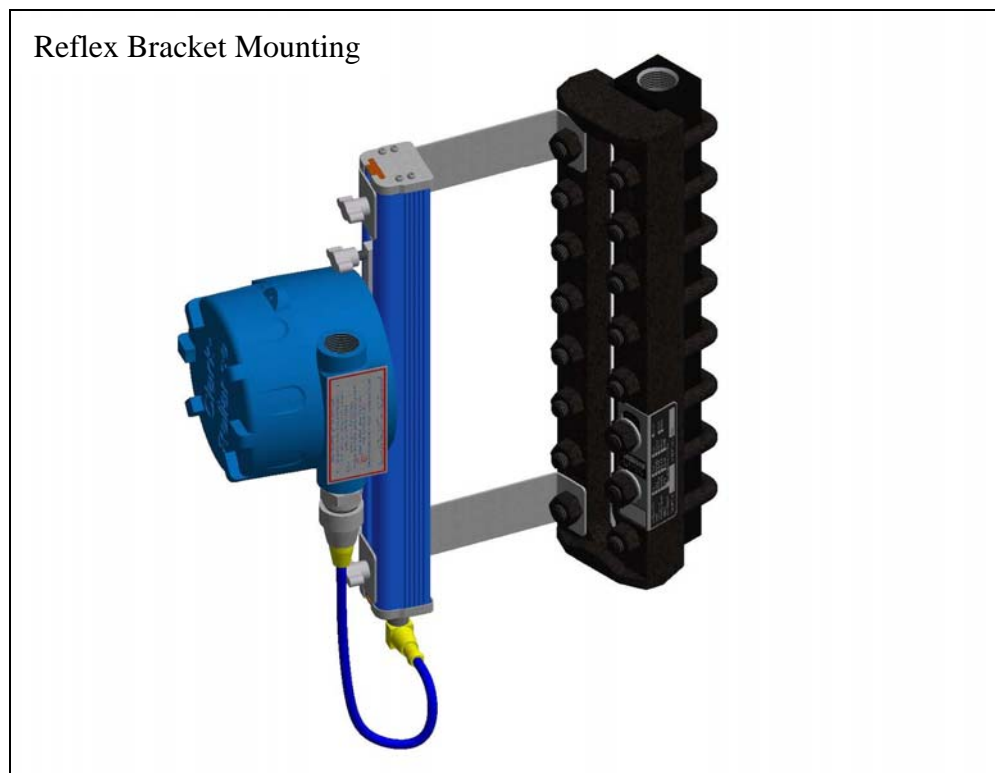

Figure 13
- 4) Position illuminator so it is centered on the Reflex Gauge and tighten the bracket thumb screws. The illuminator should be mounted as shown in Figure 13.